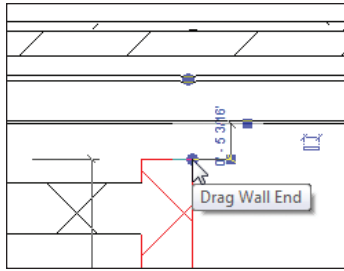

FIGURE 2.59 Pick the blue grip and drag the CMU wall out of the exterior wall.
1. Zoom in on the right side of the elevator shaft at the intersection of the exterior wall, as shown in Figure 2.59.
2. Select the east CMU wall, and drag it out of the exterior wall by picking and dragging the blue grip at the end of the wall (see Figure 2.59).